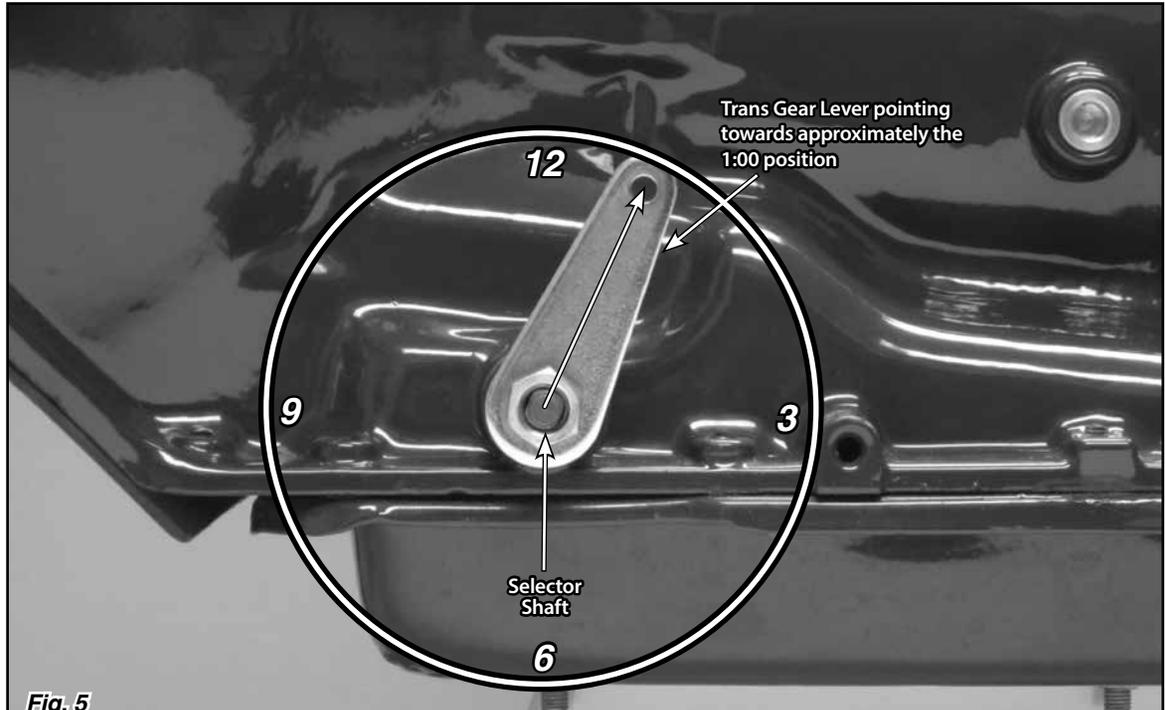

Fig. 5
Step 9: Install the trans gear lever onto the transmission and secure with your original nut. Place the trans gear lever in the Park position with the top of the lever pointing up and slightly towards the rear of the transmission, at about the 1:00 position. **Fig. 5**